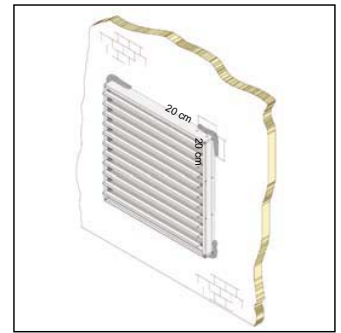

Fig.4
- The **S&P** light-blocking screens can be attached to the interior part to prevent light from entering. Especially suitable for poultry farms (**Figure 4**).